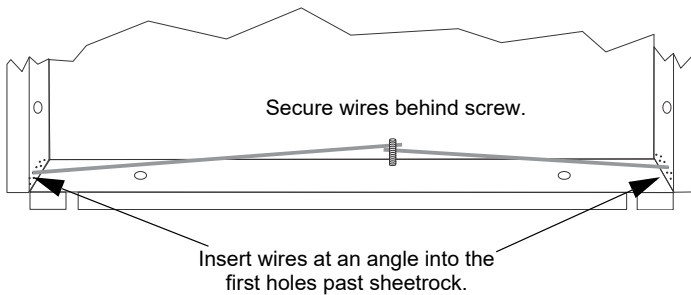

Figure 4 Flush Mounting the Backbox
3. Fit the annunciator backbox into the hole and stabilize with mounting wires. Angle the mounting wires into the first hole past the sheet rock. Secure the wires behind the screws as shown in Figure 4. When all four wires are in place, the backbox should fit snugly into the hole in the sheetrock.